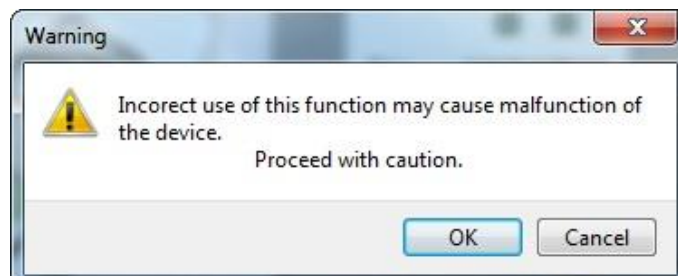

Fig. 20 Warning.
- Select: **OK** to start update (Fig. 20)